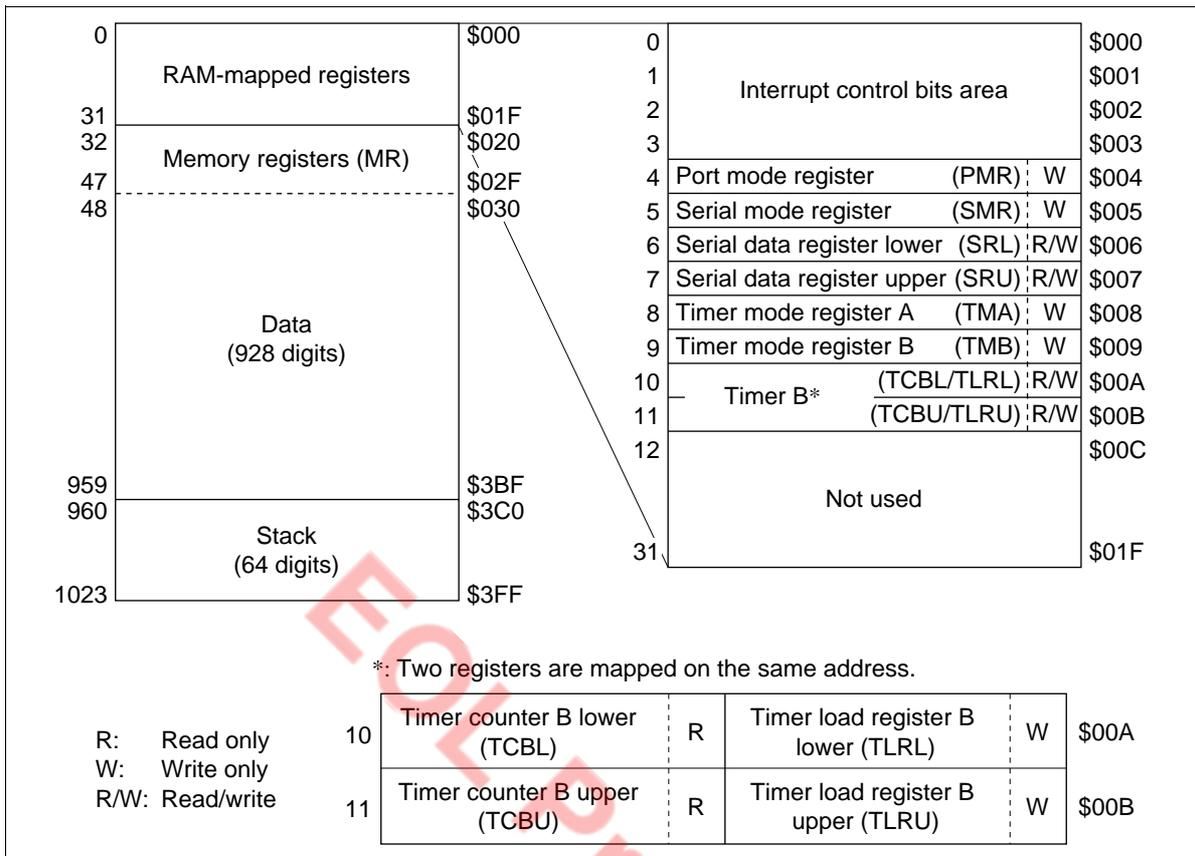

Figure 2 RAM Memory Map
The MCU also contains a 992-digit  $\times$  4-bit RAM as the data and stack area. In addition to these areas, interrupt control bits and special function registers are also mapped on the RAM memory space. The RAM memory map (figure 2) is described in the following paragraphs.
**Special Function Registers Area (\$004 to \$00B):** The special function registers are the mode or data registers for the external interrupt, the serial interface, and the timer/counters. These registers are classified into three types: write-only, read-only, and read/write as shown in figure 2. These registers cannot be accessed by RAM bit manipulation instructions.